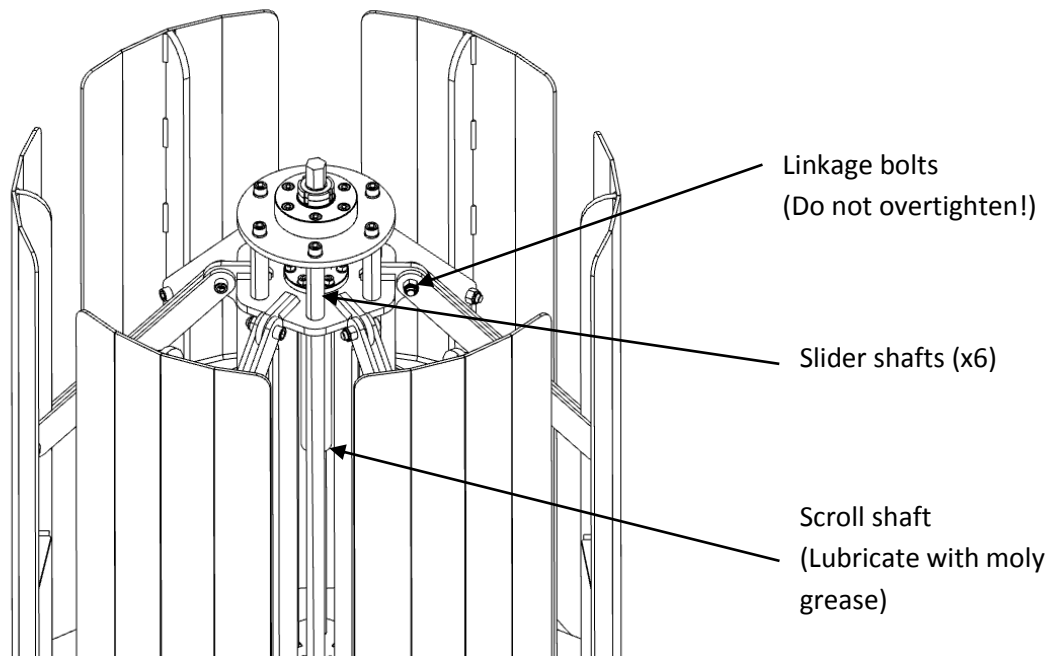

Figure 16: Coiler mandrel
- The scroll shaft (see Figure 16) in the centre of the mandrel should be lubricated with a moly grease
- The slide shafts (see Figure 16) should be lubricated with grease
NOTE that the linkage bolts on the mandrel (Figure 16) should not be overtightened as this will impair the operation of the mandrel.